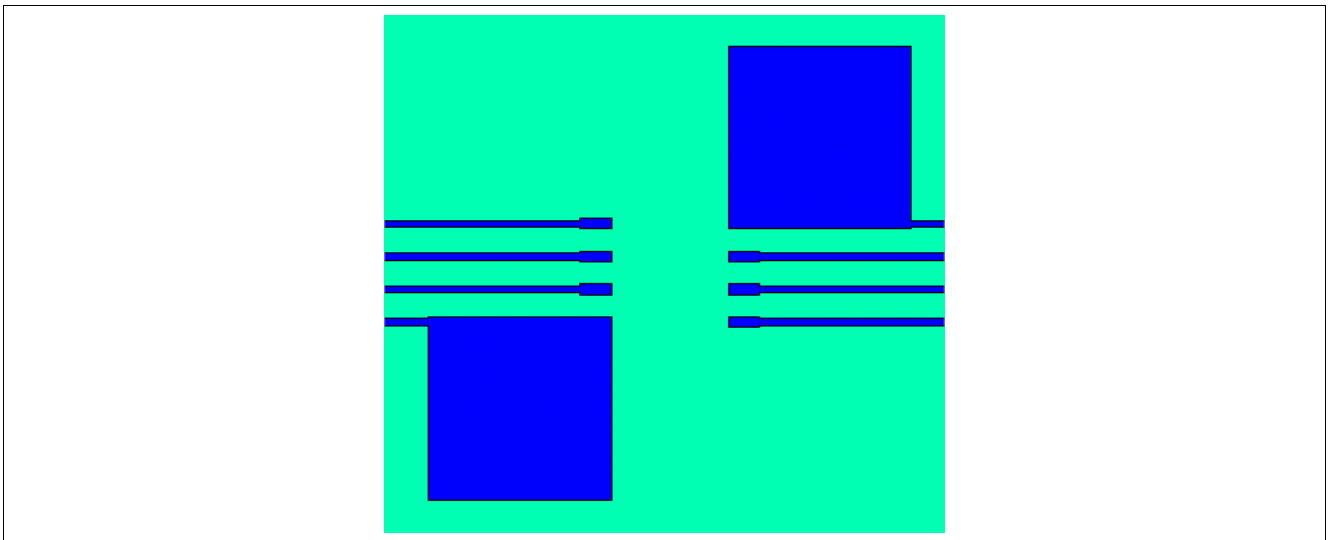

Figure 10 Reference Layout for Thermal Data (Copper thickness 35 µm)
2) See Figure 10 for reference layouts for these thermal data. Thermal performance may change significantly with layout and heat dissipation of components in close proximity.
The PCB layout shown in **Figure 10** represents the reference layout used for the thermal characterisation. Pin 4 (GND1) and pin 8 (GND2) require each a ground plane of 100 mm² for achieving maximum power dissipation. The 1EDI20N12AF is conceived to dissipate most of the heat generated through these pins.